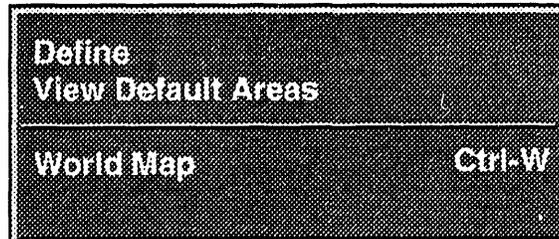

Figure 2-20. Default Area Pull-Down Menu
- 1- Select the **View Default Areas** item in the **Default Area** pull-down menu (Figure 2-20) of the geographic display.